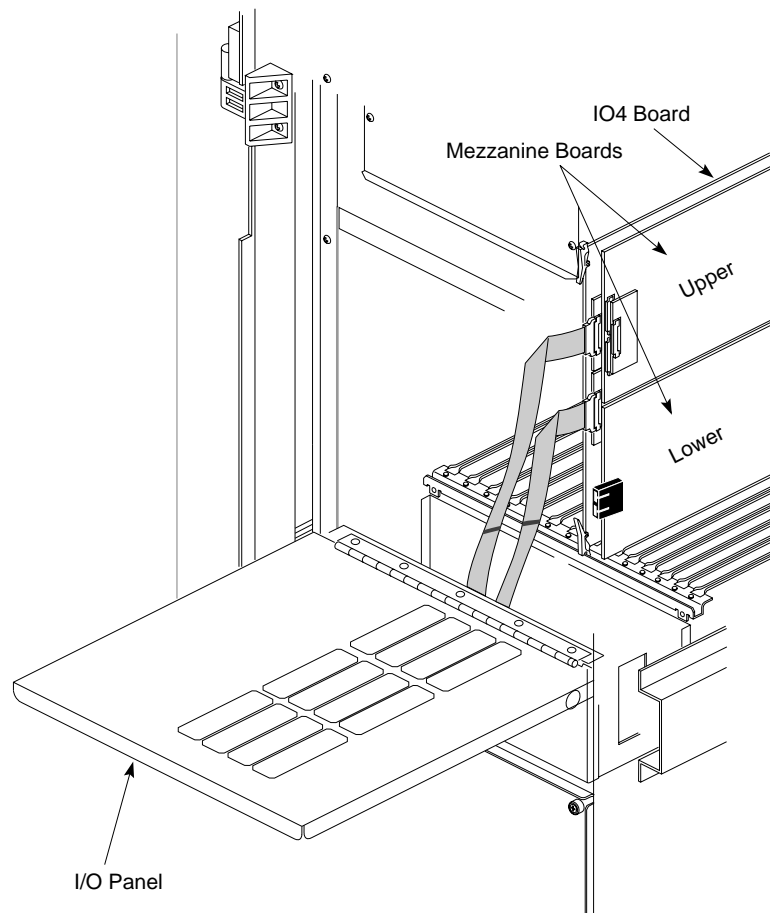

Figure 2-22 Installed IO4 Board
6. Reinstall the IO4 board into the chassis, as illustrated in Figure 2-22. Push the board firmly into the backplane. If the board has a VCAM board, the VCAM board must also seat into the backplane.